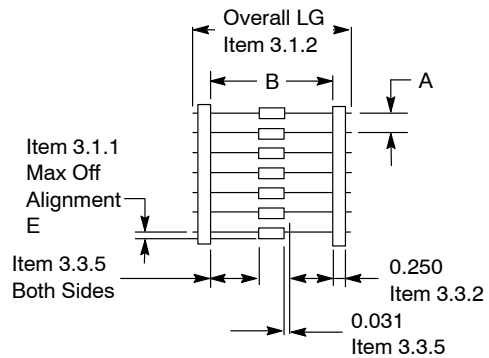

Figure 52. Component Spacing
3.1.1 – Component leads shall not be bent beyond dimension E from their normal position. See Figure 52.
3.1.2 – The "C" dimension shall be governed by the overall length of the reel packaged component. The distance between flanges shall be 0.059 inch to 0.315 inch greater than the overall component length. See Figures 52 and 53.
3.3.2 – Component's leads shall be positioned perpendicularly between pairs of 0.250 inch tape. See Figure 52.